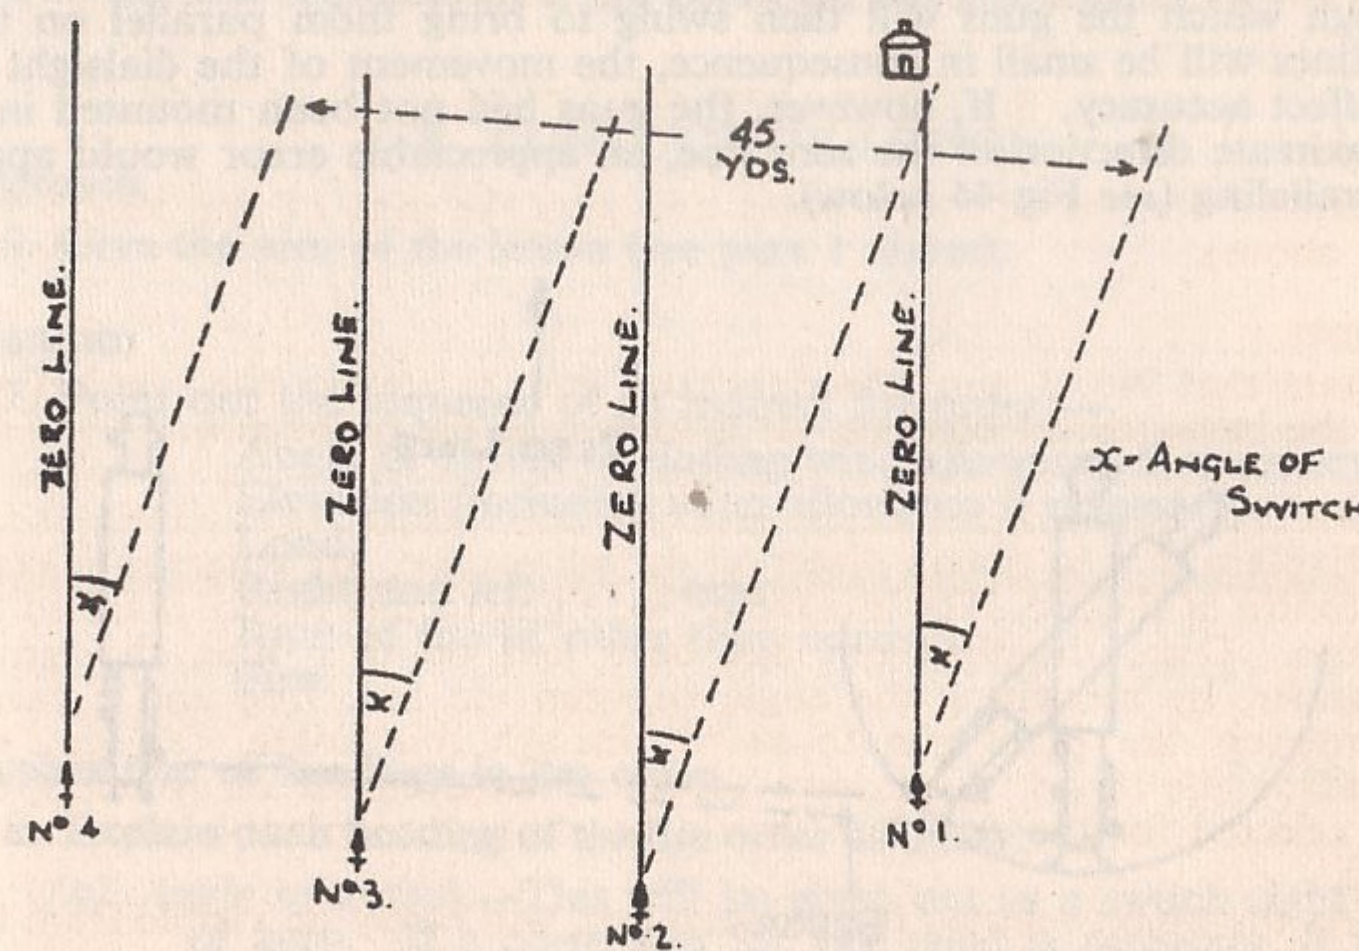

FIG 43
11. Explain that when the pivot gun has been placed on its zero line, the remaining guns are paralleled to it. The direction dials and drums on all guns are then set at zero and lensatic sights aligned on the aiming post. If the guns are now switched through the same angle, they will still remain parallel and, as the gun frontage is normally 45 yards, their lines of fire will cover 45 yards (see Fig 43 below).